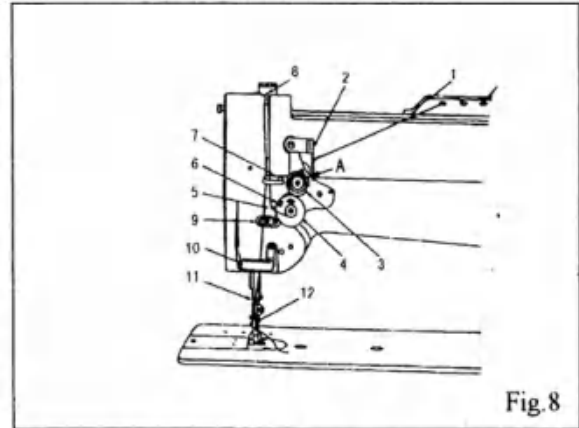

Fig. 8
8. THREADING (Fig.8)
Before adjusting the tension of the upper (needle) thread, be certain that the presser foot is let down but not in lifted position. To adjust tension, turn serrated nut (A Fig. 8) on tension device to clockwise to increase tension, while turning it to counter-clockwise to decrease it.